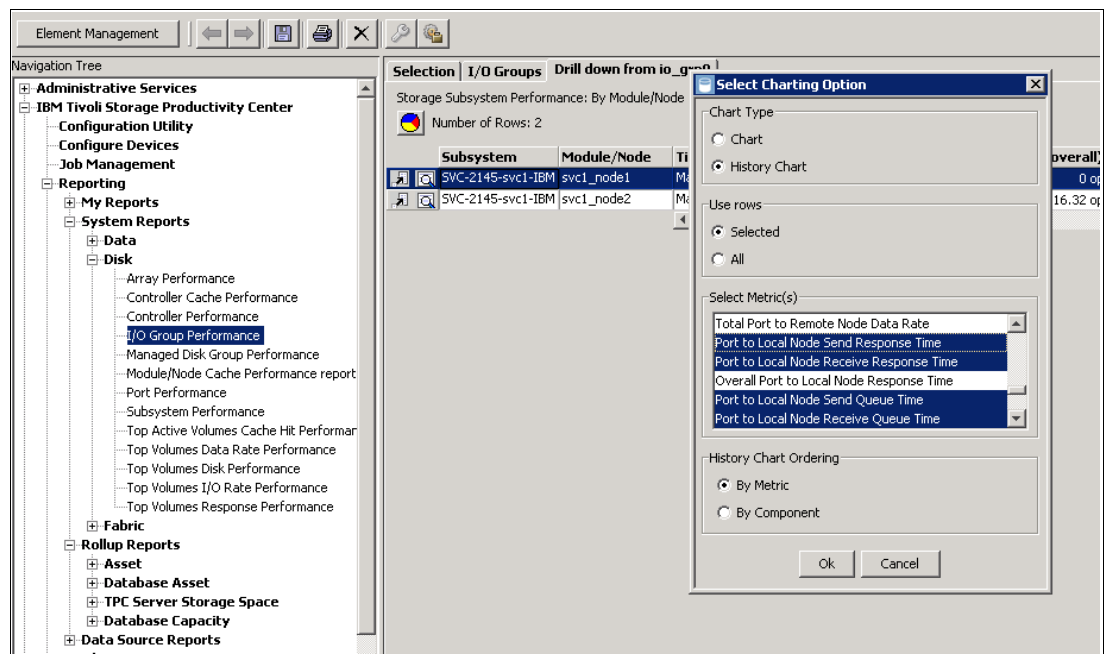

Figure 13-95 SAN Volume Controller Node port selection queue time
- In the Select Charting Option window (see Figure 13-95), select **Port to Local Node Send Queue Time**, **Port to Local Node Receive Queue Time**, **Port to Local Node Receive Response Time**, and **Port to Local Node Send Response Time**. Then, click **OK**.